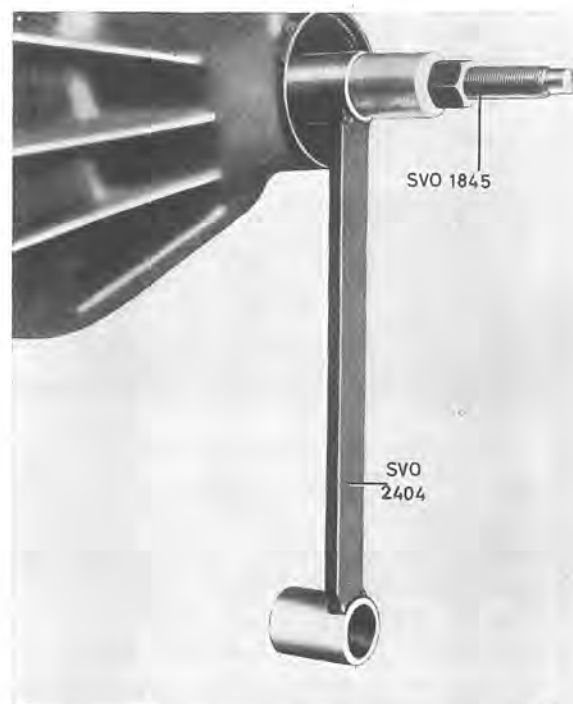

Fig. 4-159. Installing pinion
5. Insert the pinion in the casing and fit on three 0.75 mm (0.03") thick shims and the front pinion bearing. Fit tool SVO 2404 and press tool SVO 1845 on the front end of the pinion and pull in the pinion, see Fig. 4-159. Apply the nut tightener until it must press the pinion forwards so that it does not strike against the bearing positions.